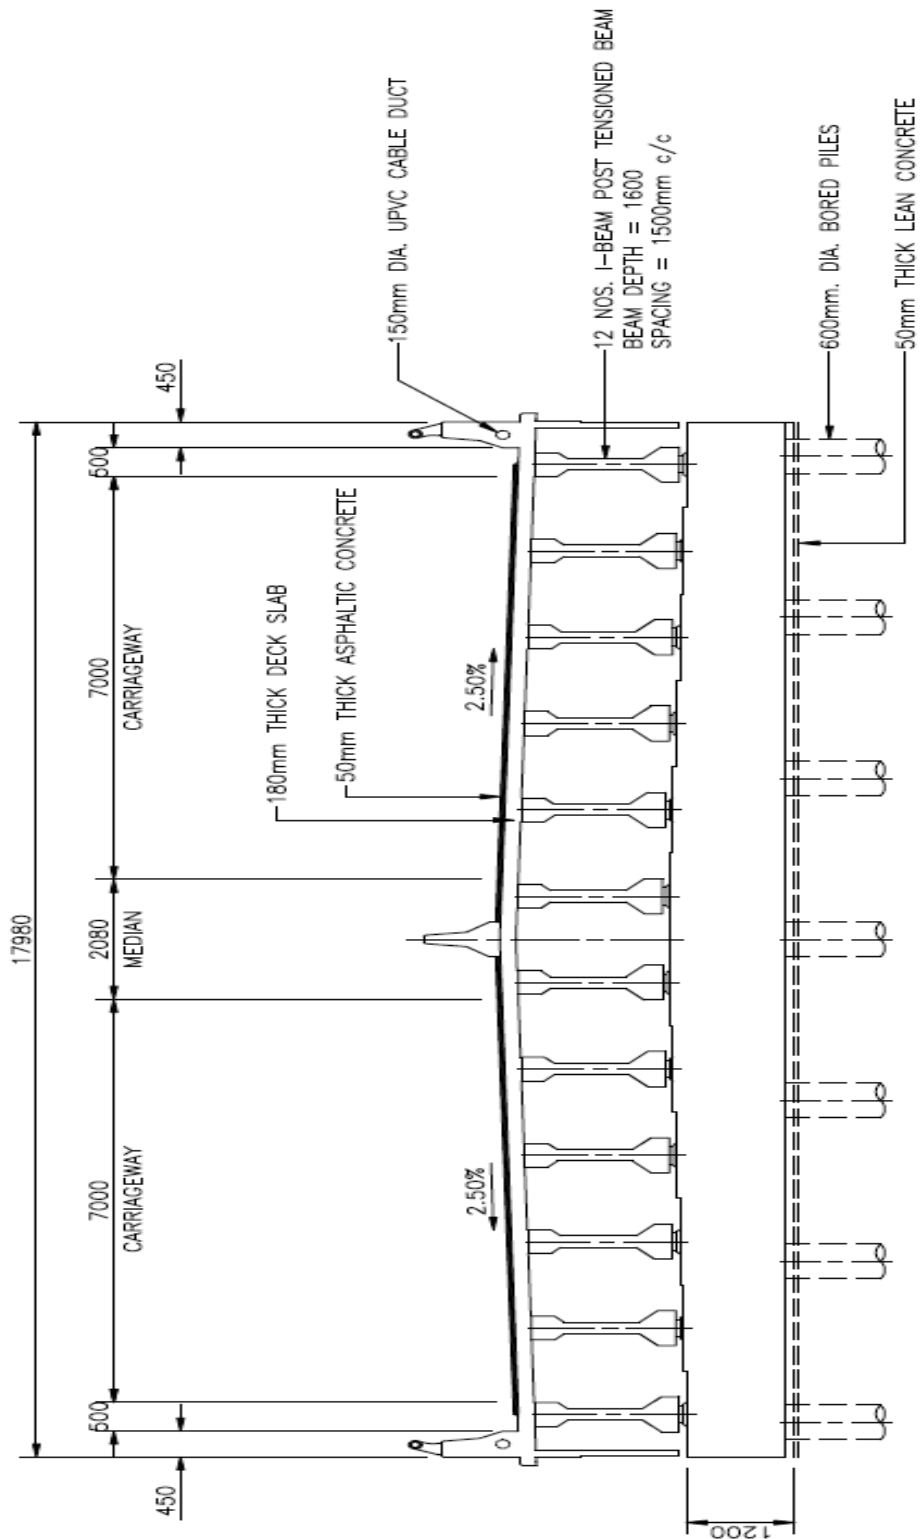

Figure 1: A bridge deck with the post-tensioned I-beam
- (b). Assume that you are being employed as a consultant of a company. The company is about to construct a dual-carriageway bridge deck in Batu 6, Gerik, Perak. You are required to analyse a bridge deck of the beam-slab type for design purpose. The cross sections of the proposed beam-slab bridge are shown in **Figure 1**. Basic data of the proposed bridge are listed in **Table 1**.